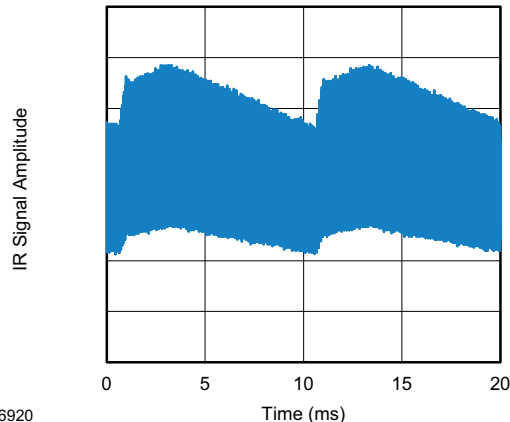
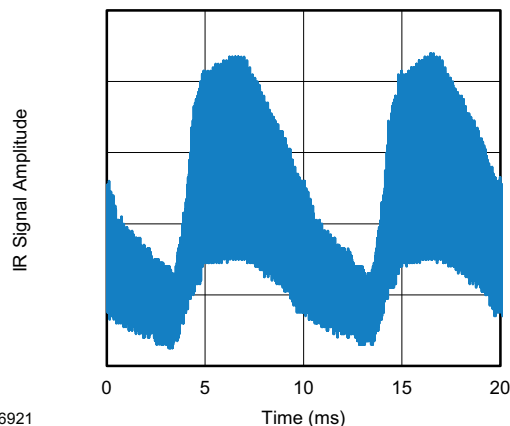

Fig. 13 - IR Emission from Fluorescent Lamp With Low Modulation
Fig. 14 - IR Emission from Fluorescent Lamp With High Modulation
- Strongly or weakly modulated patterns from fluorescent lamps with electronic ballasts (see Fig. 13 or Fig. 14).
| Suppression of interference from fluorescent lamps | Fig. 13 | Fig. 13 and Fig. 14 | Fig. 13 and Fig. 14 |